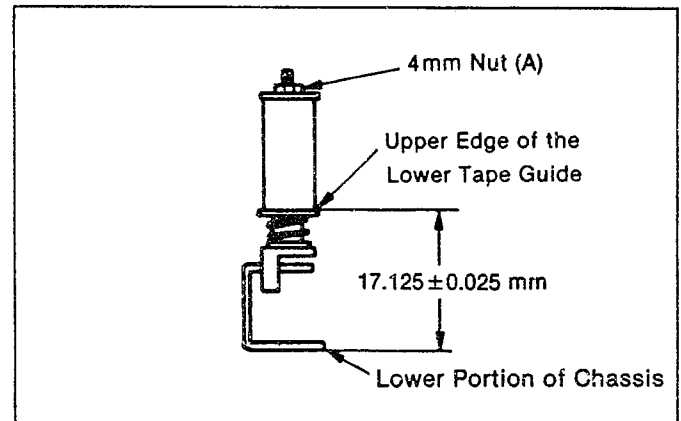

Fig. T3
- (1) For adjustment S4 Post height, turn 4mm Nut (A) Slightly in either direction as necessary to the correct clearance between the upper edge of lower tape guide on S1 Post and lower portion of Mecha chassis Fig. T3 4mm Nut A. upper edge of the Lower tape guide.